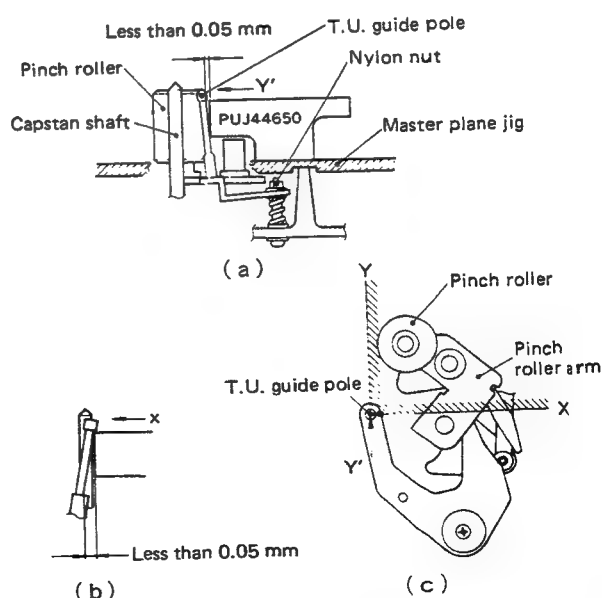

Fig. 2-29 Take-up guide pole perpendicularity
1. Set the master plane jig. Use the height gauge (PUJ-44650) to measure at the two orthogonal places (X-Y') as shown in Fig. 2-29(c).
2. To measure at the Y' place, check that the perpendicularity degree between the take-up guide pole and height gauge is less than 0.05 mm as shown in Fig. 2-29(a).
3. In the same manner, check at the X place as shown in Fig. 2-29(b).
4. Perform the following check after completing steps 2 and 3. Check that tilt of take-up guide pole is less than 0.05 mm in both X and Y directions (shaded position) as shown in Fig. 2-29(c).